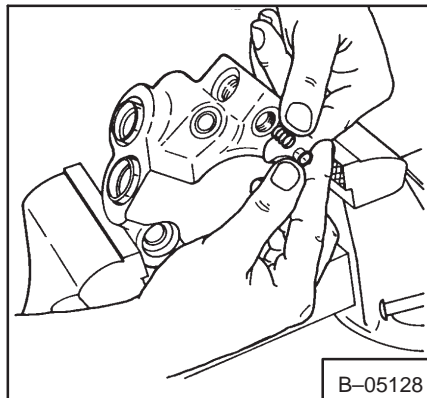

Fig. 3-39 Removing The Springs
7. Remove the spring, dash pot and poppet (Fig. 3-39).